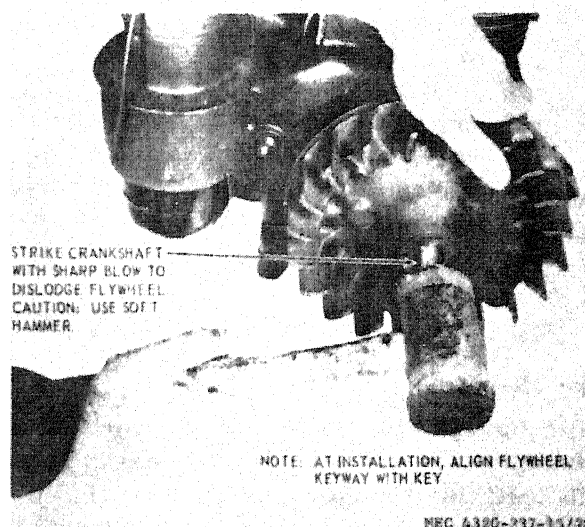

Figure 28. Flywheel, removal and installation.
- (1) Remove the starting pulley (para 58).
- (2) Remove the shroud (para 59).
- (3) Refer to figure 28 and remove the flywheel.
- (1) Refer to figure 28 and install the flywheel.
- (2) Install the shroud (para 59).
- (3) Install the starting pulley (para 58).